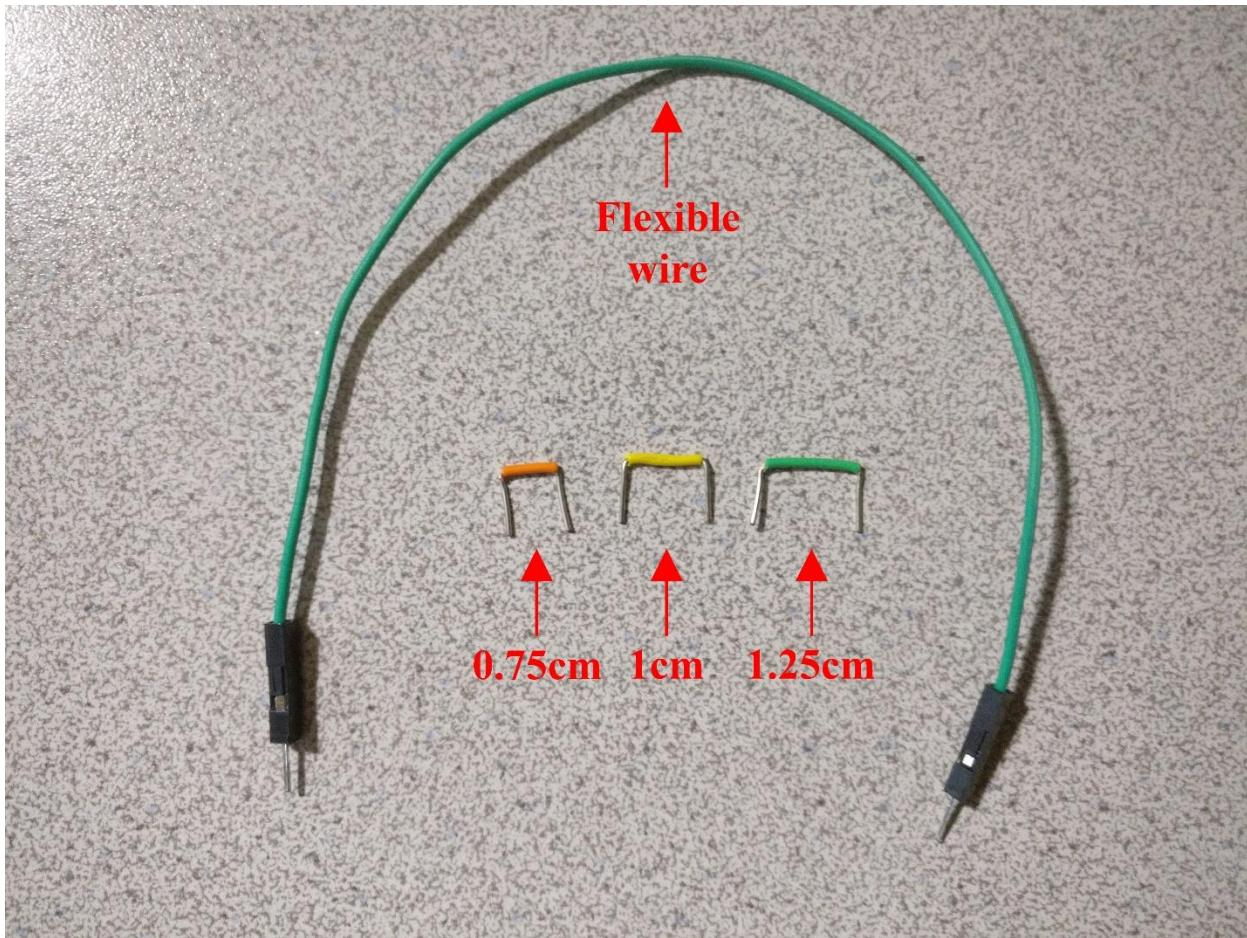

Figure 8-6 – Wires obtained from kit
- a. Obtain one 0.75cm (orange) wire, one 1cm (yellow) wire, and one (green) 1.25cm wire from the wire jumper kit, as well as one flexible wire as shown in Figure 8-6.